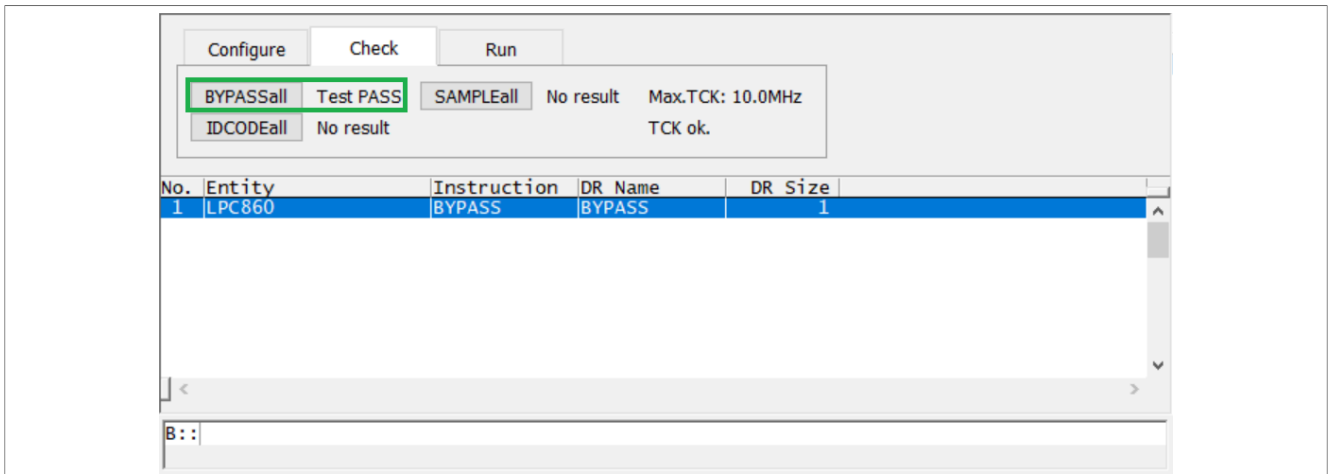
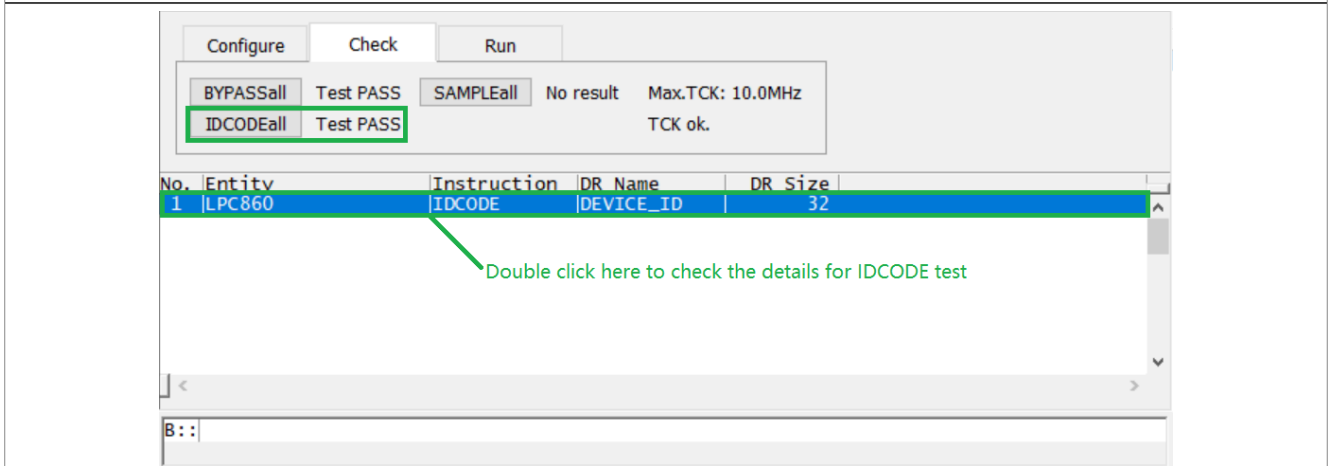
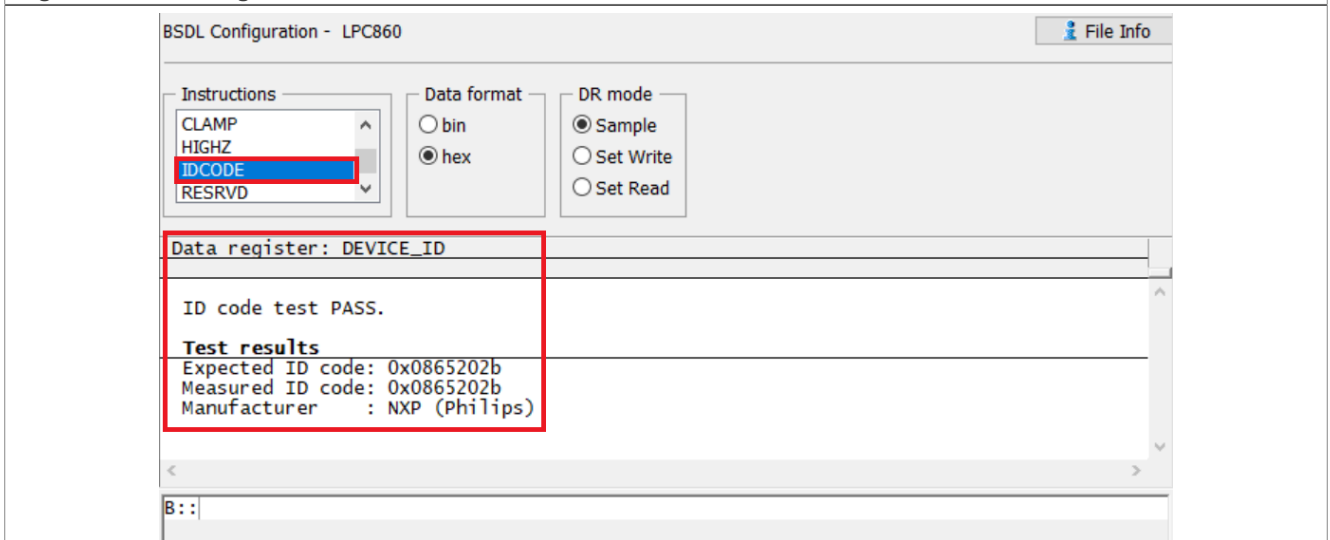

Figure 12. Checking BYPASS
Figure 13. Checking IDCODE
Figure 14. IDCODE test result
7. Switch to the **Check** tab of the BSDL.state window. To see whether both results can pass, click **BYPASSall** and **IDCODEall**, as shown in Figure 12 and Figure 13. Double-click the entity name in Figure 13, and the IDCODE test result can be seen in the **BSDL.SET** window, as shown in Figure 14.